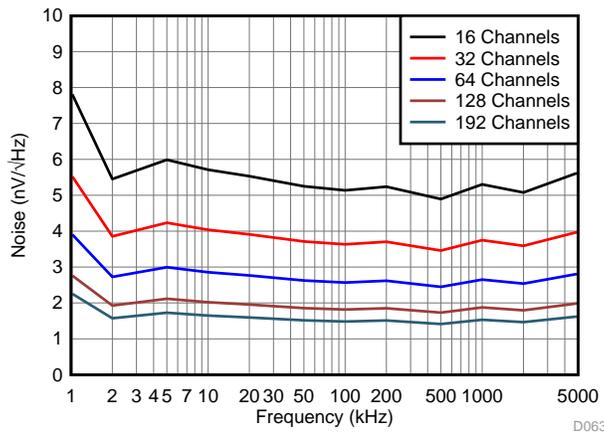

Figure 6. Allowed Noise on the  $V_{CNTL}$  Signal Across Frequency and Different Channels
- Noise requirements: Noise at the  $V_{CNTL}$  pins must be low enough to obtain good system performance because this noise is correlated across channels. Also, the  $V_{CNTLM}$  and  $V_{CNTLP}$  circuit achieves low noise to prevent the  $V_{CNTLM}$  and  $V_{CNTLP}$  noise being modulated to RF signals.  $V_{CNTLM}$  and  $V_{CNTLP}$  noise is recommended to be below 25 nV/ $\sqrt{\text{Hz}}$  at 1 kHz and 5 nV/ $\sqrt{\text{Hz}}$  at 50 kHz. In high-channel count premium systems, the  $V_{CNTLM}$  and  $V_{CNTLP}$  noise requirement is higher as shown in Figure 6.